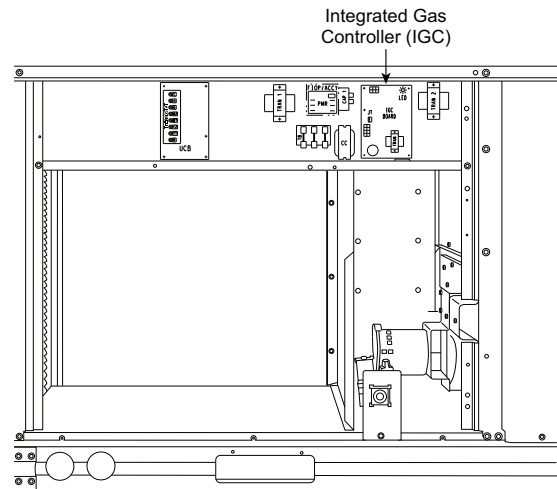

Fig. 60 — Unit Control Box/IGC Location
8. Remove igniter wires and sensor wires at the Integrated Gas Unit Controller (IGC). (See Fig. 60.)
Unit is equipped with a direct spark ignition 100% lockout system. The Integrated Gas Unit Controller (IGC) is located in the control box (see Fig. 60). The IGC contains a self-diagnostic LED